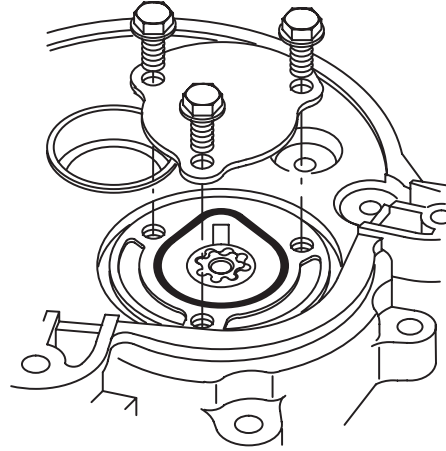

Fig. 115 – Installing Pump Cover
1. Install "O" ring in groove in sump, Fig. 115.